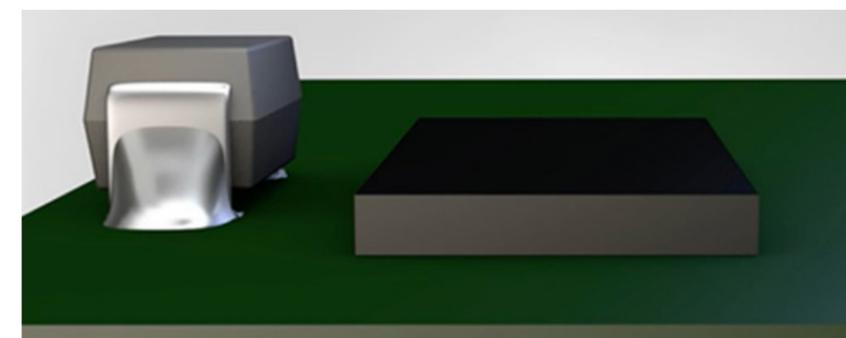

Figure 6: Dual, mirrored input capacitors are also added to constrain EMI. (Image source: Analog Devices)
Figure 6: The MAX16161 and MAX16162 are similar but with a small functional and pinout difference: the MAX16161 has an MR input that asserts a reset when it receives an appropriate input signal, while the MAX16162 has separate VCC and VIN pins. (Image source: Analog Devices)
The **MAX16161** is a close sibling of the MAX16162 with nearly identical specifications, but with one functional difference and some redefining of pin assignments (**Figure 6**). It features a manual reset (MR) input that asserts a reset when it receives an appropriate input signal, which can be either active-low or active-high, depending on the option selected. In contrast, the MAX16162 has no MR input but instead has separate VCC and VIN pins, allowing threshold voltages as low as 0.6 volts.
- Technique #2: The use of symmetrical input capacitors bounds EMI by creating balanced, opposing currents (Figure 6).